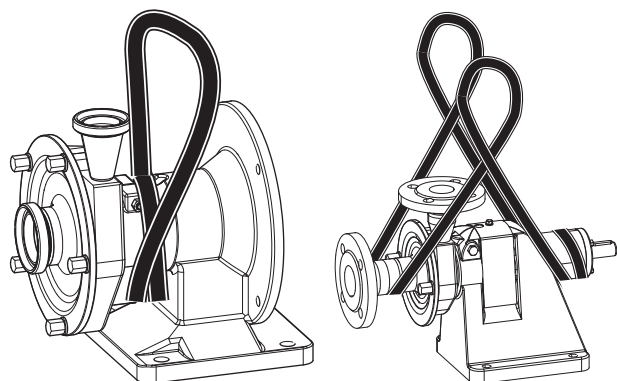

Fig. 53 Moving with crane
1. Wrap the round sling twice around the lantern neck (see Fig. 53 "Moving with crane" page 34).
1. Wrap the round sling twice around the back end of the bearing block (see Fig. 53 "Moving with crane" page 34).